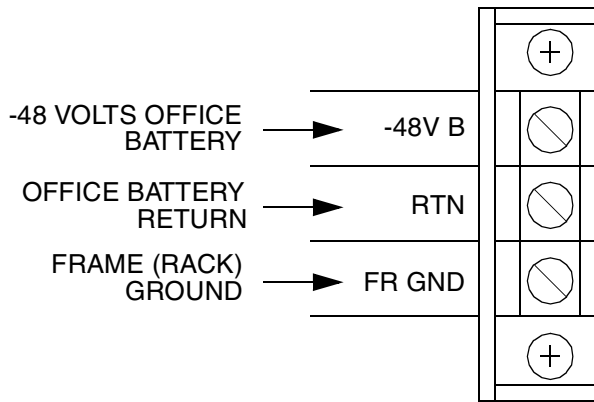

Figure 4. Power Terminal Block
4.02 Refer to Figure 4 when making power and ground connections.